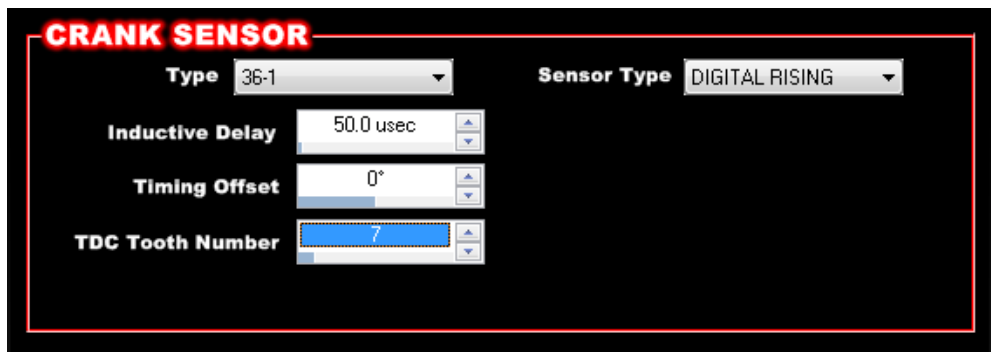

Figure 5: Initial software settings.
1. If using Holley EFI, set initial ignition software parameters as seen in **Figure 5** below.